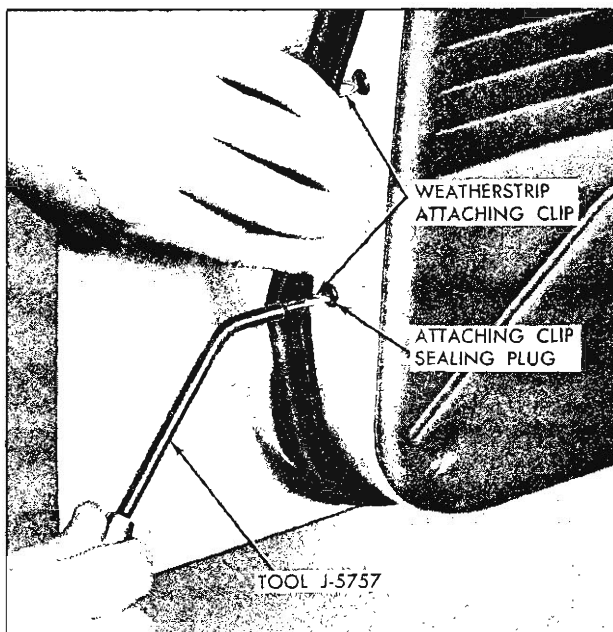

Fig. 35—Usage of Tool J-5757
4. Insert tip of tool J-5757, or any other suitable tool, at retaining clip locations and carefully snap clips from sealing plugs (fig. 35).
4. Beginning at either front or rear section of door, install snap fasteners. Install weatherstrip attaching clips into their respective sealing plugs by placing notched end of tool J-5757 into loop of wire clip and pushing clip into sealing plug (fig. 35).
locations and carefully snap clips from sealing plugs (fig. 35).
5. Install weatherstrip into door upper frame by inserting tool J-5757 into loop of wire clips and pushing clips into their respective piercings (fig. 35).
7. Install weatherstrip into attaching clip sealing plugs by installing tool J-5757 into loop of wire clips and pushing clips into their respective plugs (fig. 35).